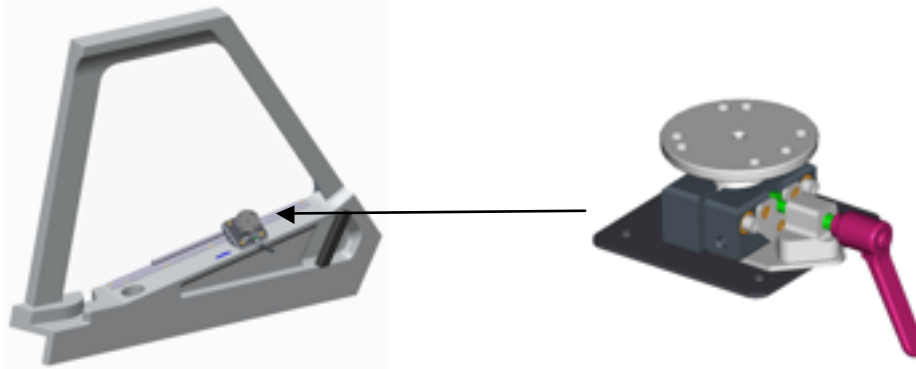

FIGURE 3 - CAPTAIN'S SIDE WINDOW MODIFIED WITH EZMOUNT™ PIVOT
- » Modification to the existing captain's side window trim by adding four (4) holes to allow spacers to contact the mounting brackets under window trim that are attached to the window frame. The mounting plate assembly and EZMount™ Pivot is then installed on the top surface of the spacers. See Figure 3.